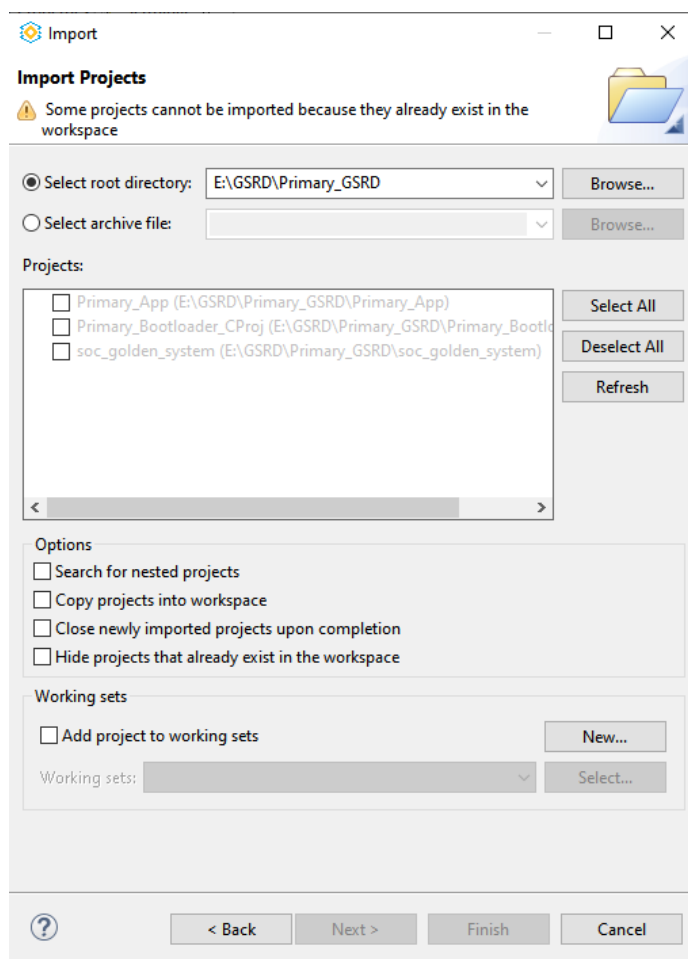

Figure A.5. Import Project
6. Select the project `\Primary_GSRD` as shown in Figure A.5.